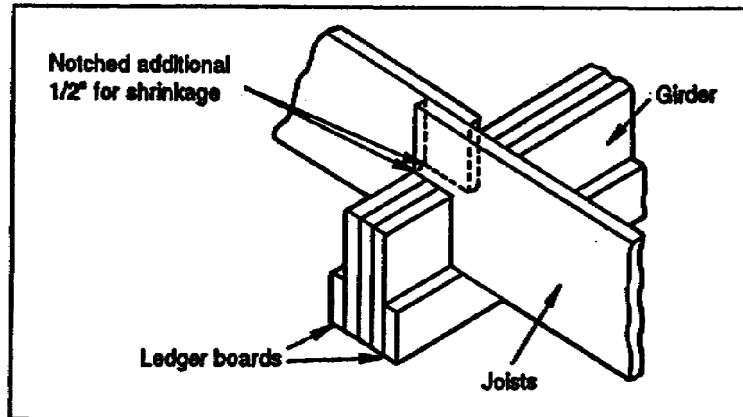

Figure 1-8. Girder with ledger board
b. Girder with Ledger Board. Use a girder with a ledger board when vertical space is limited and where more headroom is needed (see Figure 1-8).